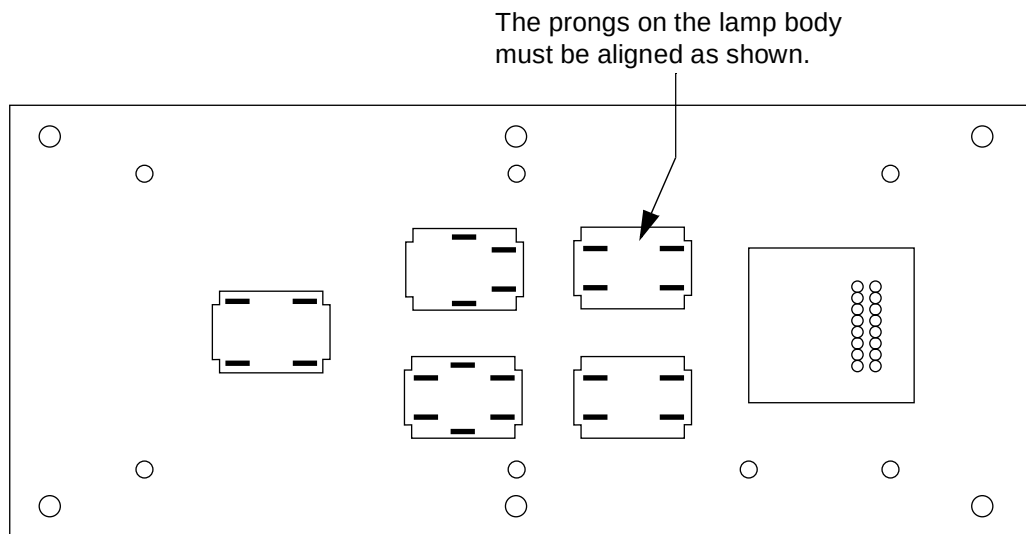

**Figure 10-5. Lamp Body Contact Alignment**
8. Replace the lamp body by pushing it straight into the lamp housing receptacle. Make sure the contacts on the lamp body are properly oriented (see Figure 10-5).